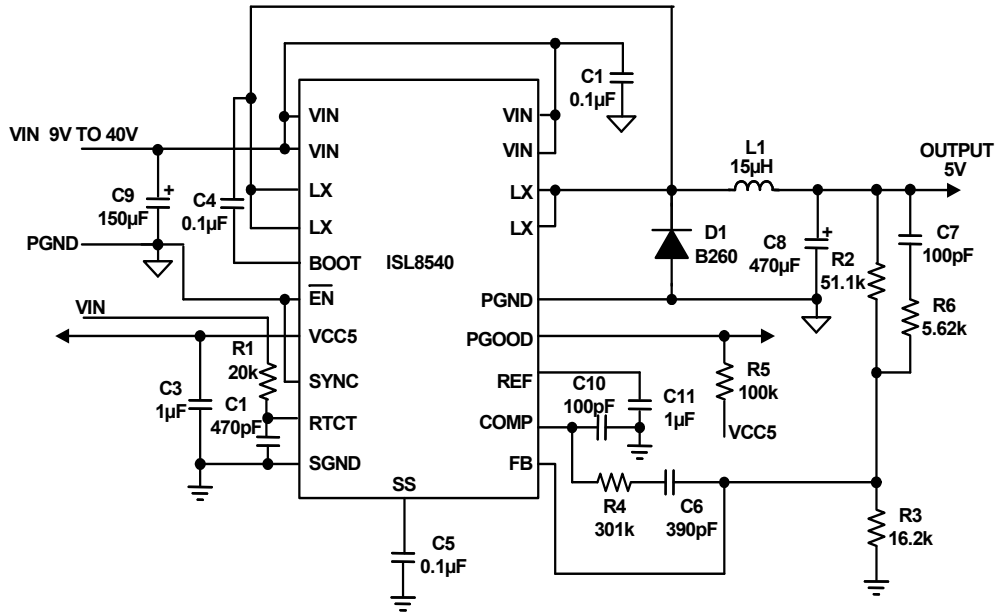

FIGURE 2. TYPICAL SCHEMATIC FOR ISL8540 (5V VOUT)
**Typical Performance Curves** Circuit of Figure 2,  $V_{IN} = 24V$ ,  $\overline{EN} = 0V$ ,  $FS = 500KHz$ ,  $V_{OUT} = 5V$ , unless otherwise noted. Typical values are at  $T_A = +25^\circ C$ .
**Typical Performance Curves** Circuit of Figure 2,  $V_{IN} = 24V$ ,  $\overline{EN} = 0V$ ,  $FS = 500kHz$ ,  $V_{OUT} = 5V$ , unless otherwise noted.
**Typical Performance Curves** Circuit of Figure 2,  $V_{IN} = 24V$ ,  $\overline{EN} = 0V$ ,  $FS = 500kHz$ ,  $V_{OUT} = 5V$ , unless otherwise noted. Typical values are at  $T_A = +25^\circ C$ . (Continued)
**Typical Performance Curves** Circuit of Figure 2,  $V_{IN} = 24V$ ,  $\overline{EN} = 0V$ ,  $FS = 500KHz$ ,  $V_{OUT} = 5V$ , unless otherwise noted. Typical values are at  $T_A = +25^\circ C$ . (Continued)